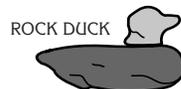

Figure 71—Two- or three-stone “rock ducks” are not a substitute for cairns and should not be built.
**Cairns** are used in open areas where low visibility or snow cover makes following the tread difficult or where the tread is rocky and indistinct. Two or three stones piled one on top of the other, "rock ducks," are no substitute for cairns and should be scattered at every opportunity. Cairns are similar in construction to rock crib and consist of circular tiers of stones (Figure 71).